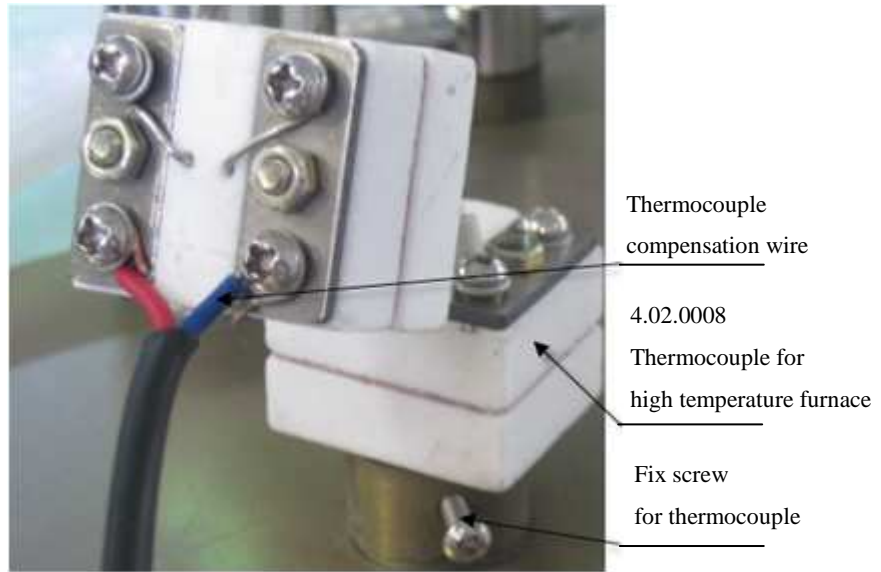
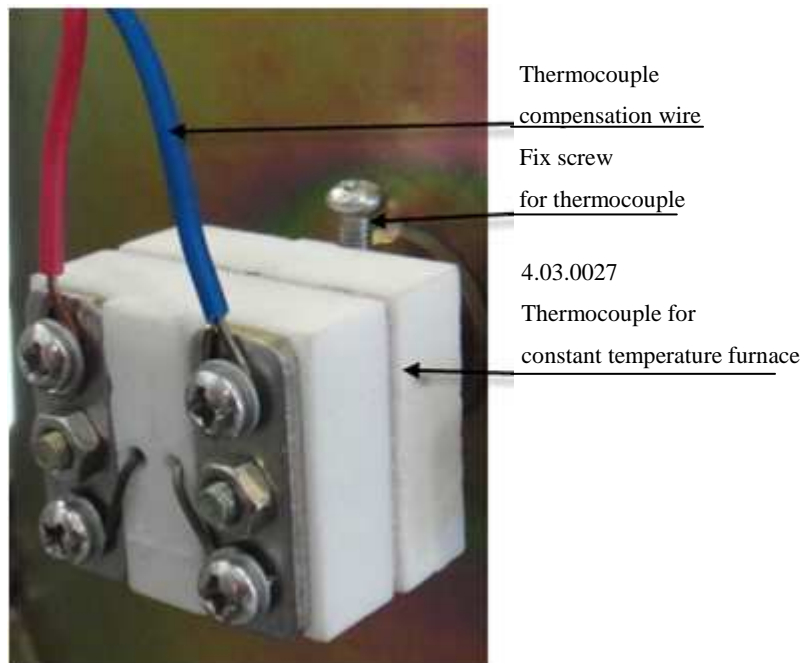

Fig.3-2
Fig.3-3
- 1) Open the rear cover plate of the low-temperature furnace and the top cover of the combustion furnace and insert thermocouples into the corresponding holes respectively. Please refer to Fig.3-2 and Fig3-3.